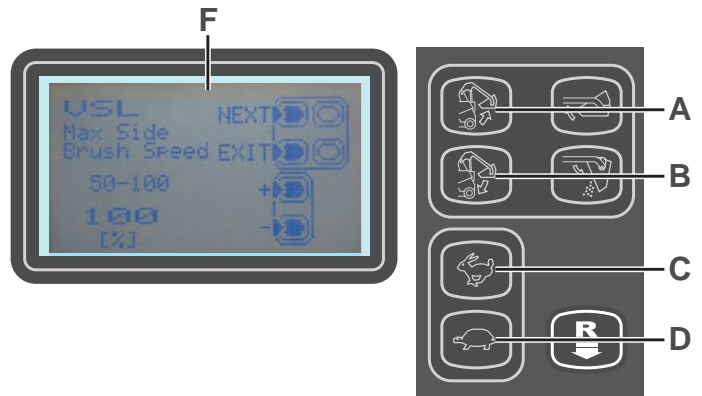

Figure 4
**Machine Settings Screen (F, Fig. 4)**